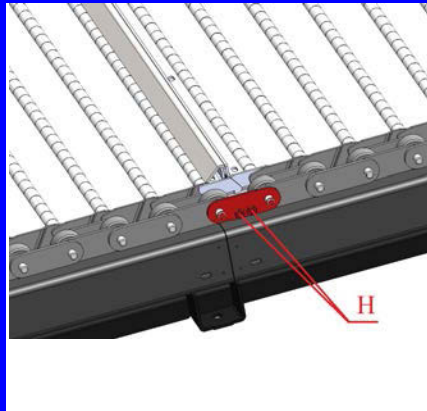
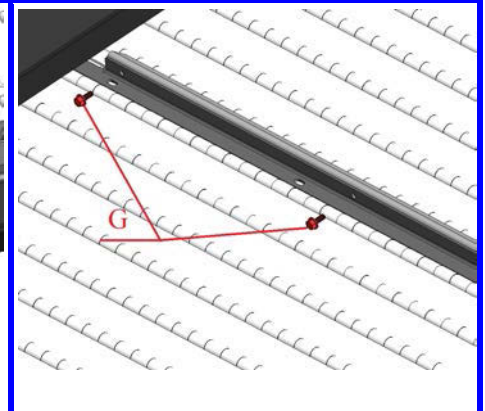

Figure 20 : Removable coupler
Figure 21 : Clamping the link
3. In order to uncouple the belt and be able to take it out, unscrew the connecting link by removing the 5 screws (**G**) (**Figure 21**), swivel the two half links then release the removable link by removing the 4 screws (**H**) (**Figure 20**)
The belt is closed using a flanged link. This link is fitted with a removable chain coupler. **Figure 20** shows the assembly of a coupler with the two ends of the chain.
2. Connect the ends of the chains with the removable couplers (**Figure 20**).
4. Clamp the connecting link with the 5 screws (**G**) in order to close the belt (**Figure 21**).